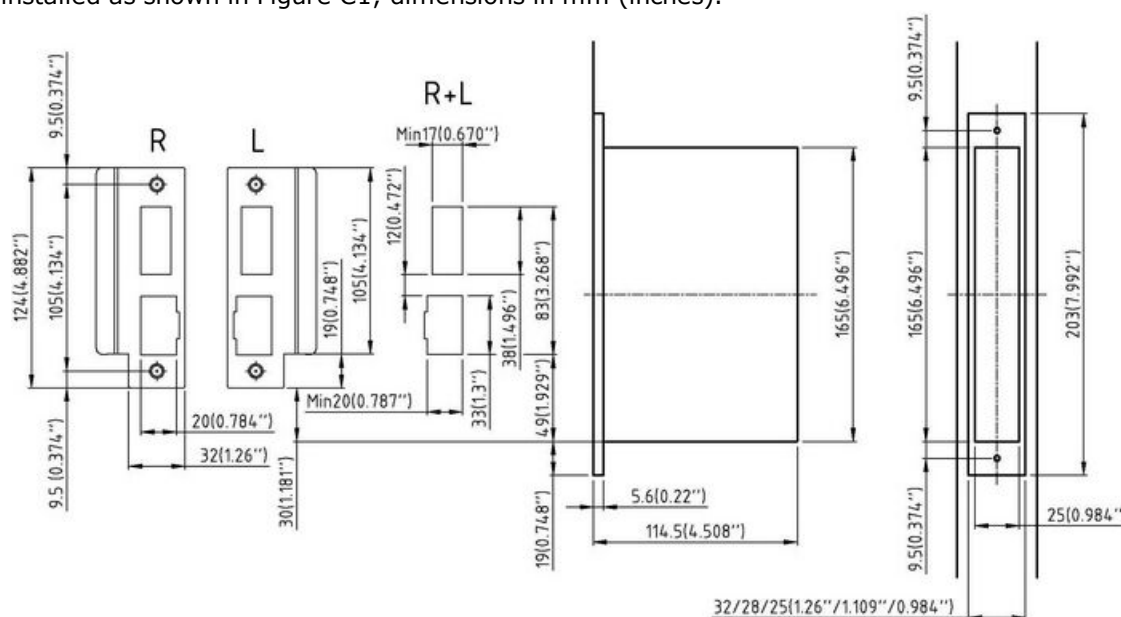

Figure C1: Striker plate and cut-out
When installing or upgrade to ANSI DA ADB lock case, the external striker plate must be installed as shown in Figure C1; dimensions in mm (inches).
2. Place the ADB striker plate in the frame as shown in Figure C1, 49 mm (1 30/32'') above the bottom of the lock front (30mm + 19mm, i.e. 3/4''+1 3/16'').